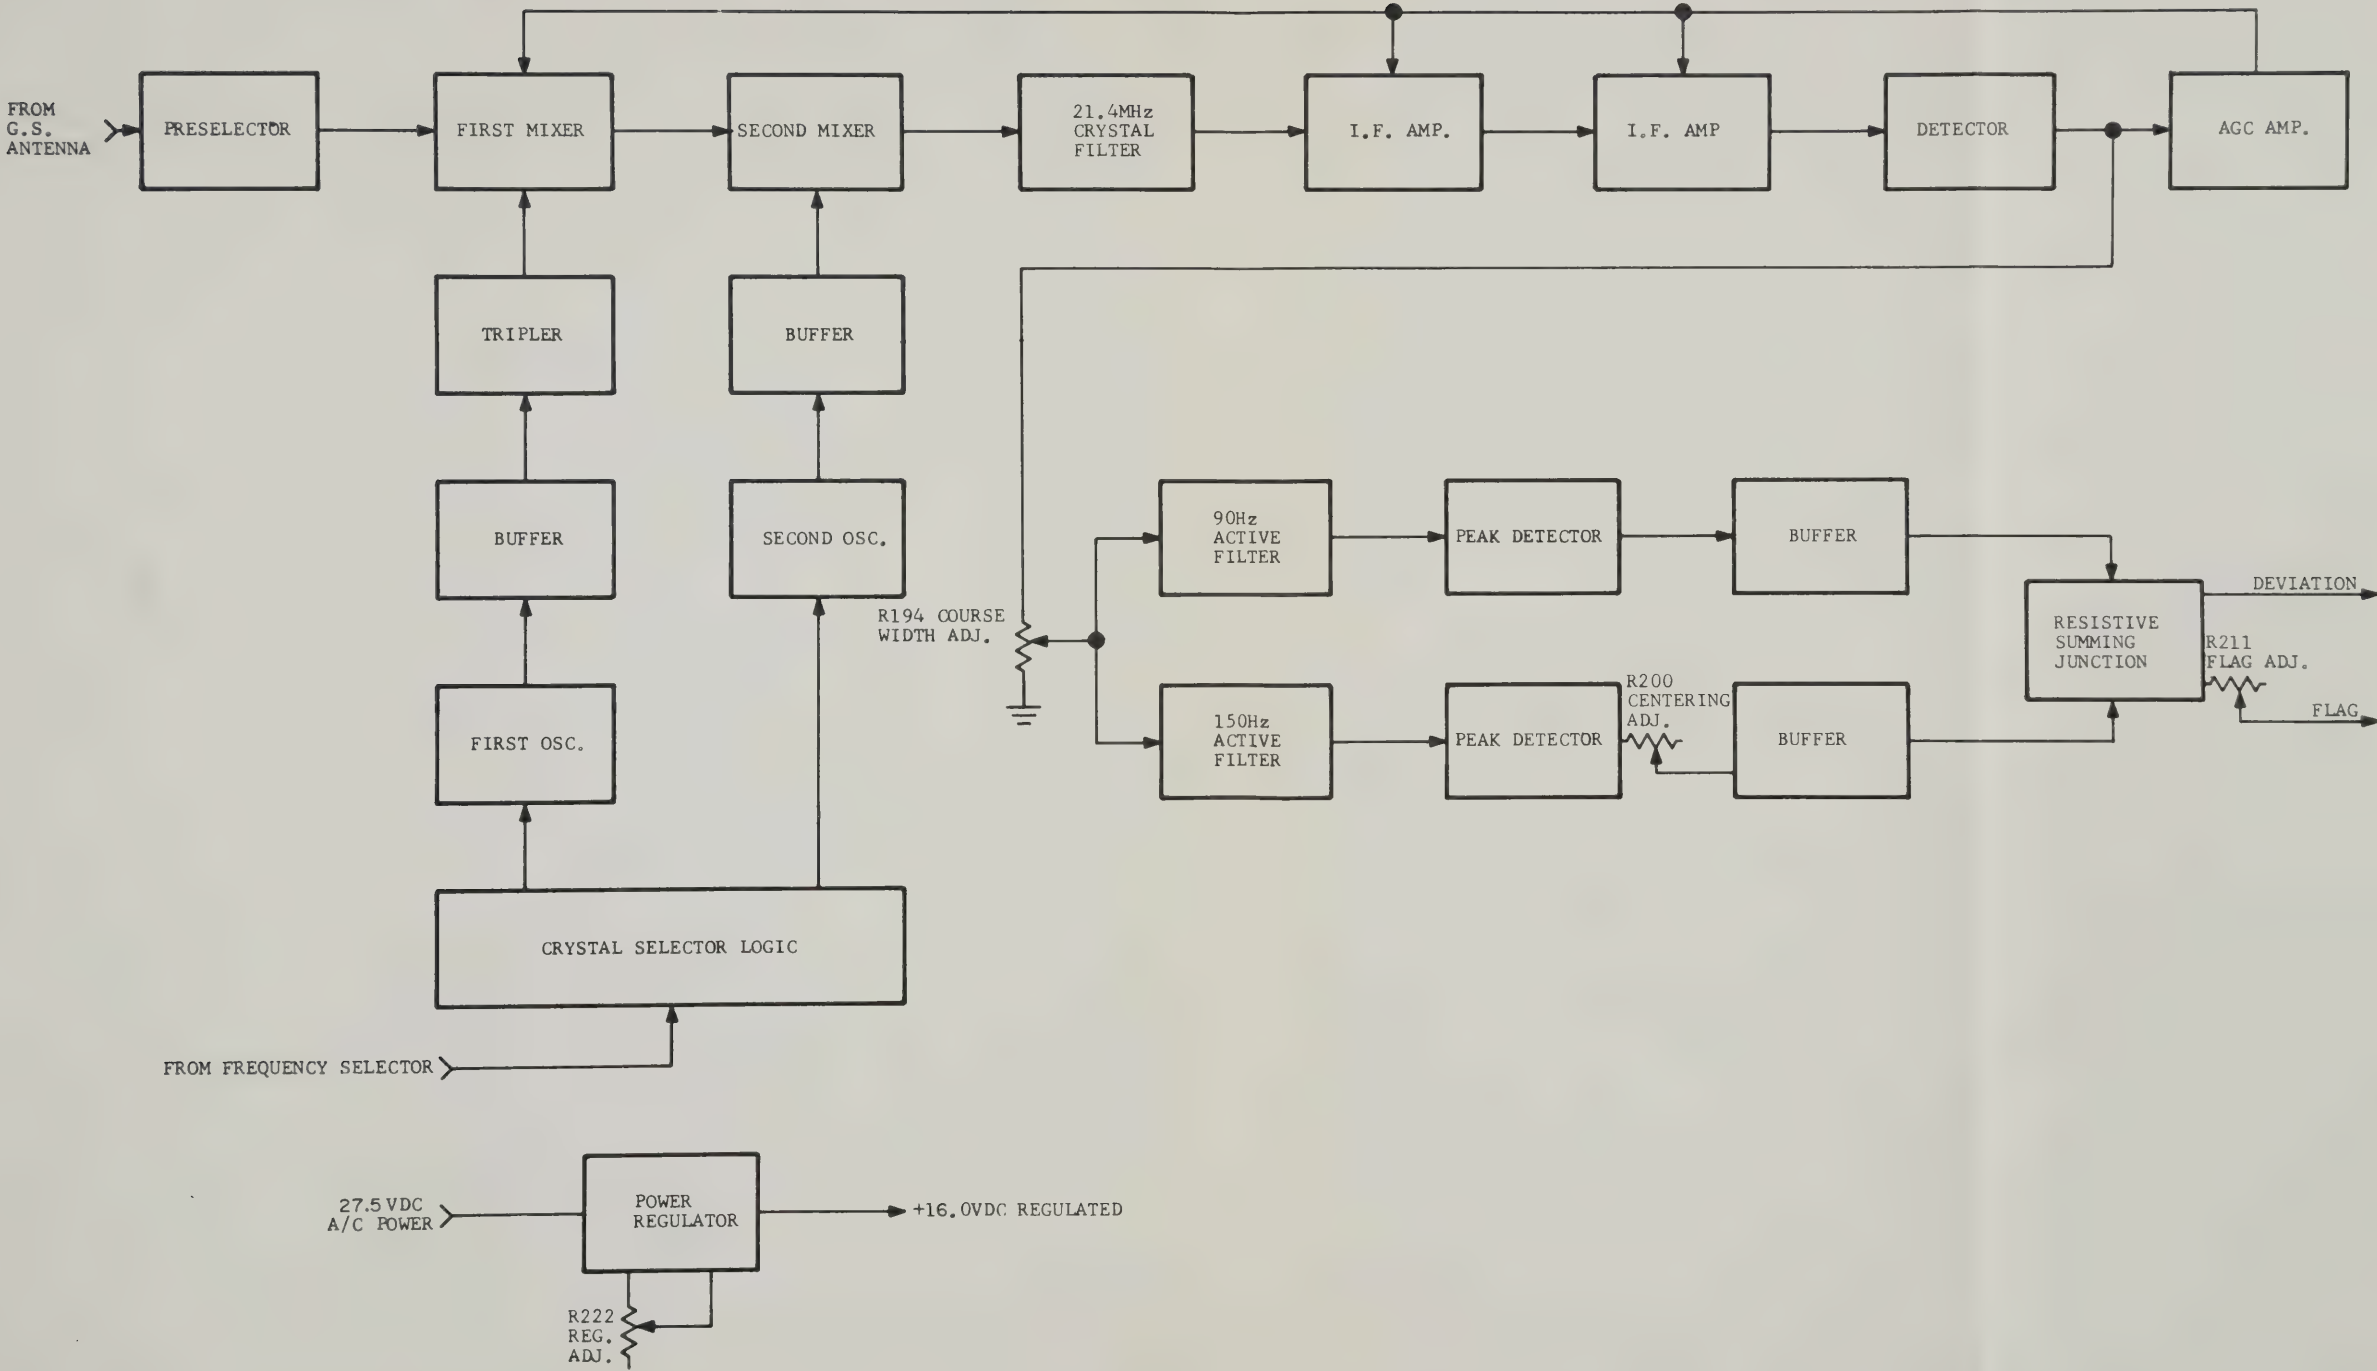

FIGURE 4-2 GLIDESLOPE RECEIVER BLOCK DIAGRAM
4.3.1 GLIDESLOPE RECEIVER (Figure 4-2)